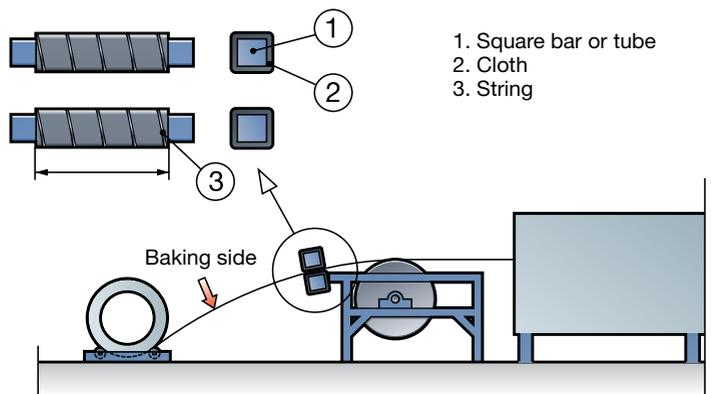

Figure 2
- The belt is normally delivered with the baking side on the inside of the coil. The outside of the coil is marked with a label “This side bottom side”. Make sure that you pull the belt on correctly. See figure 2.
The cleaning bars are fastened to the terminal end by screw clamps in the position shown in figure 2. Before pulling on the belt, the cloth should be soaked in an appropriate solvent. When the cloth facing the belt is saturated with oil, the bars or square tubes should be turned  $\frac{1}{4}$  revolution.